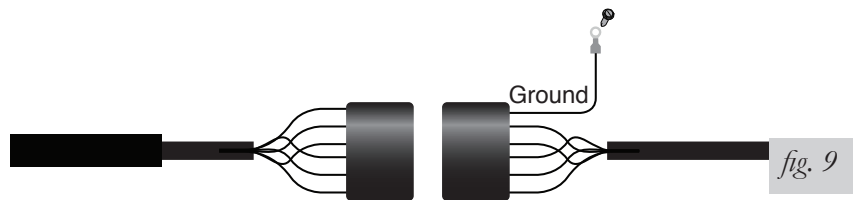

fig. 9
- Attach the terminal end of the ground wire to a clean section of the framerail using the provided self-tapping screw (fig. 9).